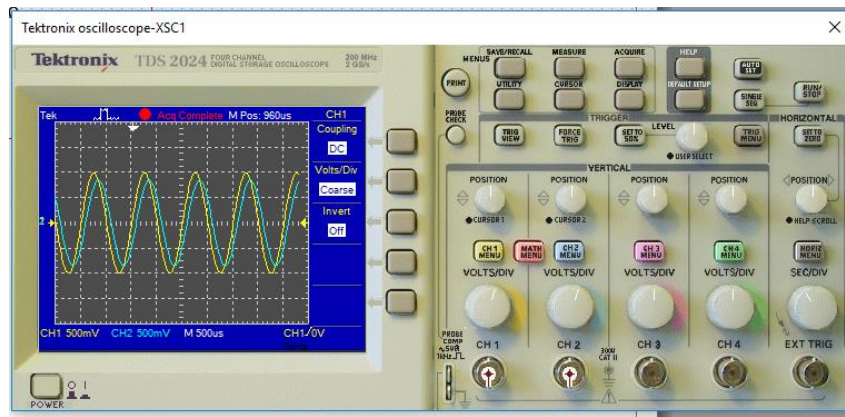

Figure 7. Tektronix oscilloscope.
16. Double click on the oscilloscope. The **Tektronix Oscilloscope-XC1** window opens. It contains an interactive oscilloscope panel (Figure 7).